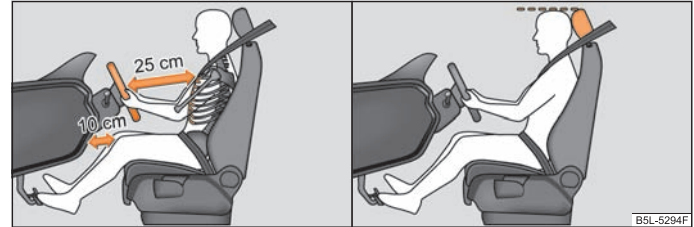

Fig. 128 The correct distance of the driver from the steering wheel and the gear lever/The correct head restraint adjustment for the driver
- Position the steering wheel so that there is a gap of at least 25 cm between the steering wheel and the chest, and the distance between the legs and the gear lever at the height of the knee airbag is at least 10 cm ⇒ fig. 128 - left.
- Adjust the head restraint so that the top edge of the head restraint is at the same level as the upper part of your head ⇒ fig. 128 - right.
- The driver must maintain a distance of at least 25 cm between the steering wheel, and a distance of at least 10 cm between the legs and the gear lever at the height of the knee airbag ⇒ page 134, fig. 128 - left. Not maintaining this minimum distance will mean that the airbag system will not be able to properly protect you - hazard!
- Adjust the head restraint so that the top edge of the head restraint is at the same level as the upper part of your head ⇒ page 134, fig. 128 - right.
- Adjust the head restraints so that the top edge of the head restraints is at the same level as the upper part of your head ⇒ page 134, fig. 128 - on the right.